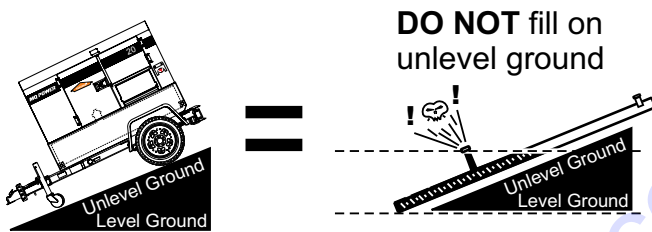

Figure 19. Only Fill on Level Ground
- Level Tanks** — Make sure fuel cells are level with the ground. Failure to do so will cause fuel to spill from the tank before reaching full capacity (Figure 19).